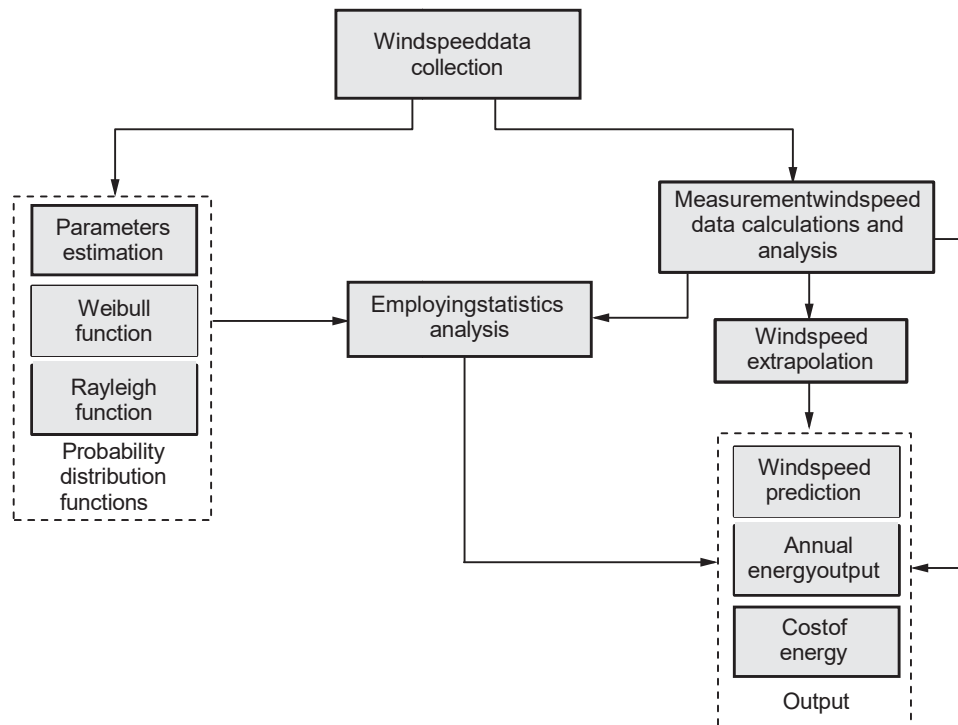

Fig. 3.5.1 Schematic diagram for wind data analysis procedure
- Fig. 3.5.1 shows a schematic diagram of the wind data analysis procedure.